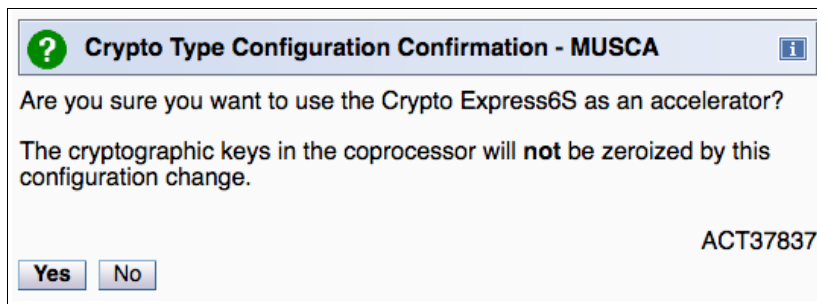

Figure 10-13 Crypto Type Configuration Confirmation for accelerator
5. Click **Yes** (see Figure 10-13).